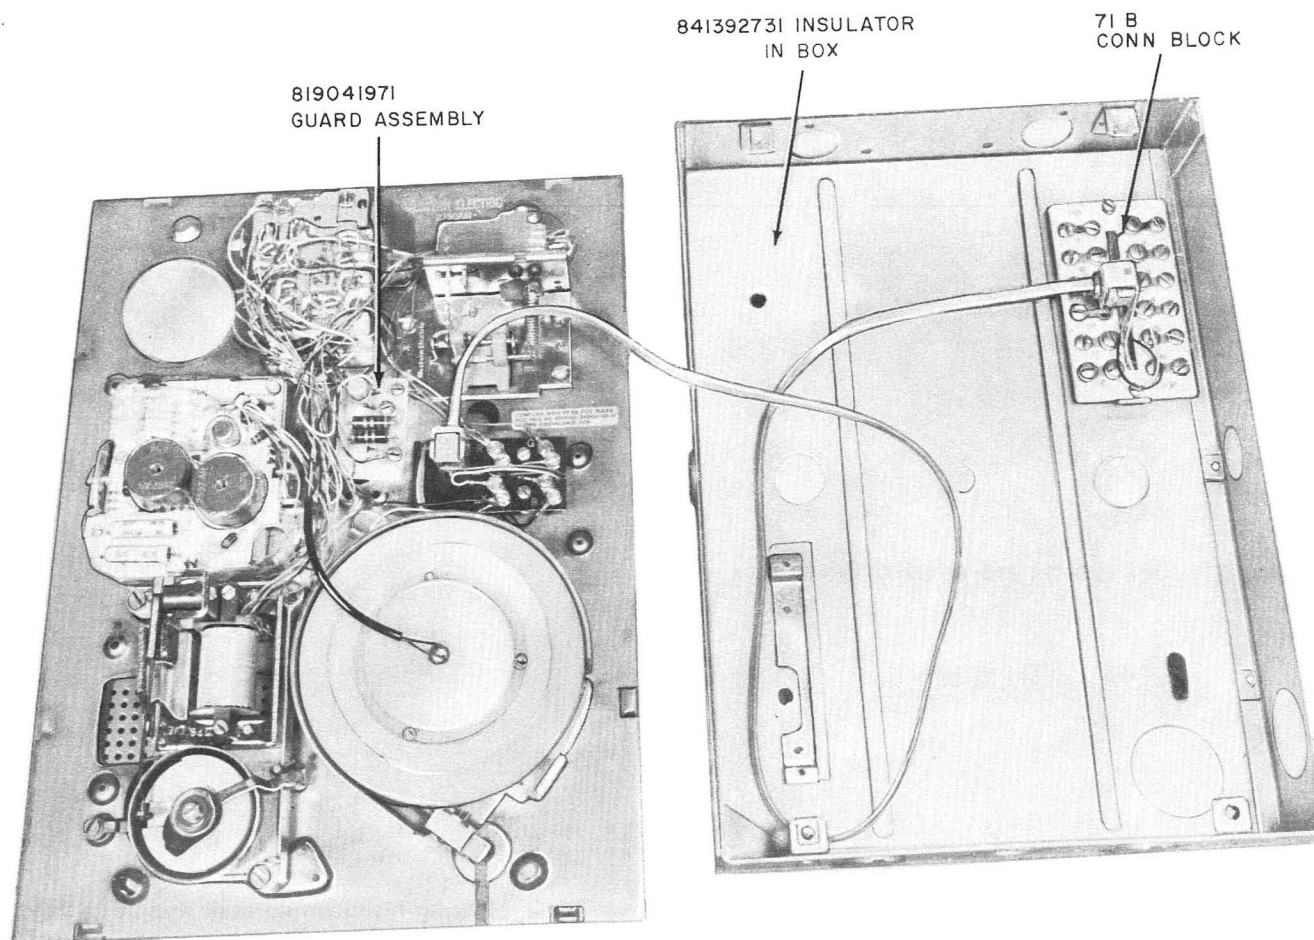

Fig. 4—Rear of 2750AM (MD) or 2750BM (MD) Telephone Set Showing 819041971 Guard Assembly With Insulator and 71B Connecting Block Installed in Apparatus Box
2.09 The polarity guard is optional for the 2750AM (MD) and 2750BM (MD) telephone sets and must be ordered separately. It is intended for use when specified by local instructions for end-to-end signaling installations. Refer to Table D for polarity guard connections and Fig. 4 for location of 819041971 polarity guard in set. The 2750AMG and 2750BMG telephone sets are equipped with the 840364376 polarity guard which is located beneath the network and next to the 35-type dial.